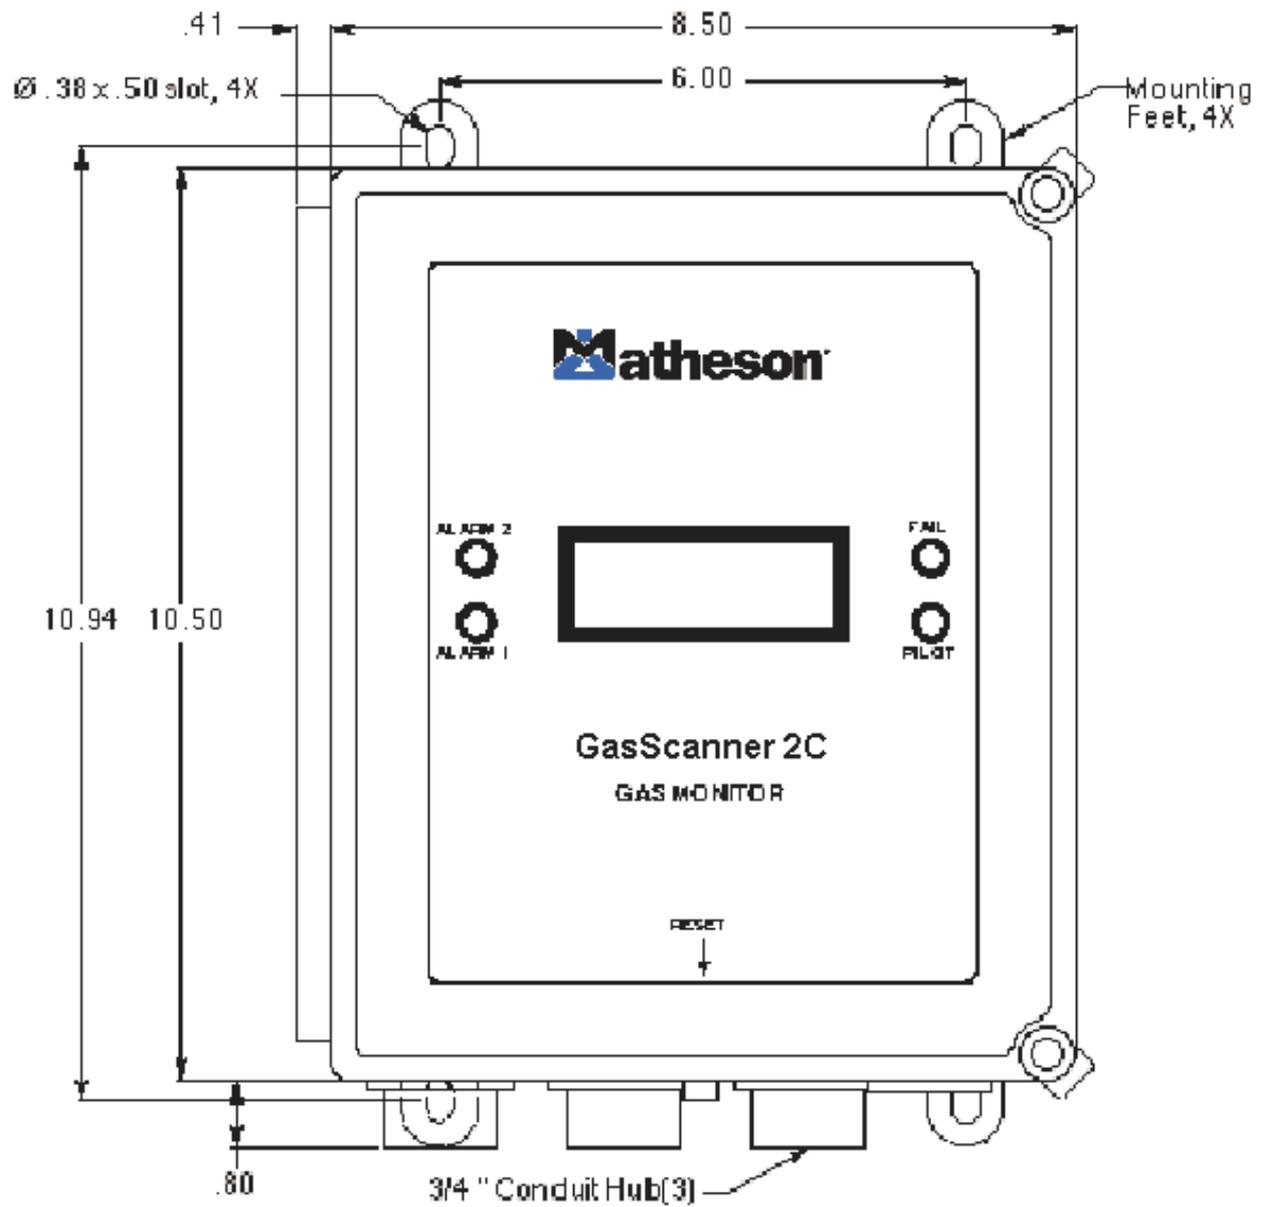

Figure 4: Mounting the GasScanner 2C
4. The GasScanner 2C is shipped with the mounting feet positioned behind the housing. Loosen the screws that secure the feet to the housing, rotate the feet to their mounting position (as shown in Figure 4), then tighten the screws.
5. Insert 1/4 in. or 5/16 in. screws through the slots in the mounting feet at each corner of the housing to secure the housing to the mounting surface (see Figure 4).